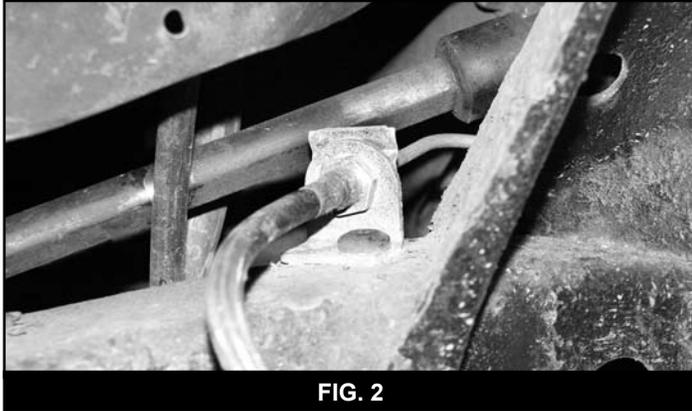

FIG. 2
10. Install the new brake line mounting bracket to the new hose and then attach the hose to the steel line at the frame. Attach the bracket to the frame in the original brake line mounting position with the OE bolt. Torque bolt to 18 ft-lbs. (Fig. 2)